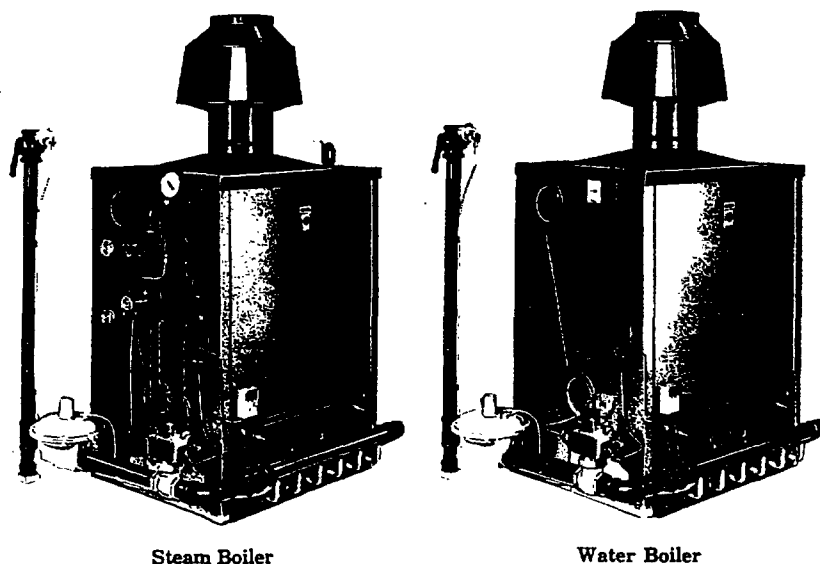
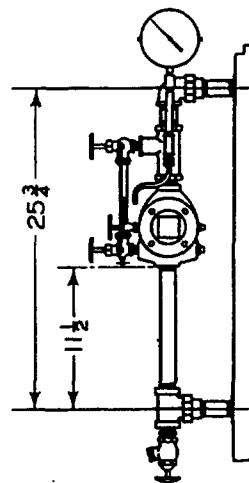

FIG. 9—Jacket Assembly
FIG. 10—Low Water Cutoff
2. Assemble left and right side jacket panels, fastening front and rear halves together with washer head screws passing through front half into caged nuts in rear half. Attach panels to boiler section with washer head screws. (See Fig. 9.)
8. Place drafthood firmly on flue outlet of canopy. Refer to Fig. 9 for assembly of boiler jacket.
1. Assemble low water cutoff and water column piping as shown in Fig. 10 and attach to boiler as shown in Fig. 9. Assemble the working mechanism to the low water cutoff with gasket and screws (furnished in separate package). Make steam gage connection with nipple and tee to $\frac{1}{4}$ " tapping on upper part of low water cutoff. Connect steam control element on automatic gas valve with steam gage tee using copper tubing and connectors. Fill tubing with water and screw steam gage into tee.
1. Insert temperature bulb element of automatic gas valve in $\frac{3}{4}$ " tapping near top of left end section. (See Fig. 9). For more sensitive operation discard well before installing split nut and gland. Tube leading to bulb is installed under the jacket.